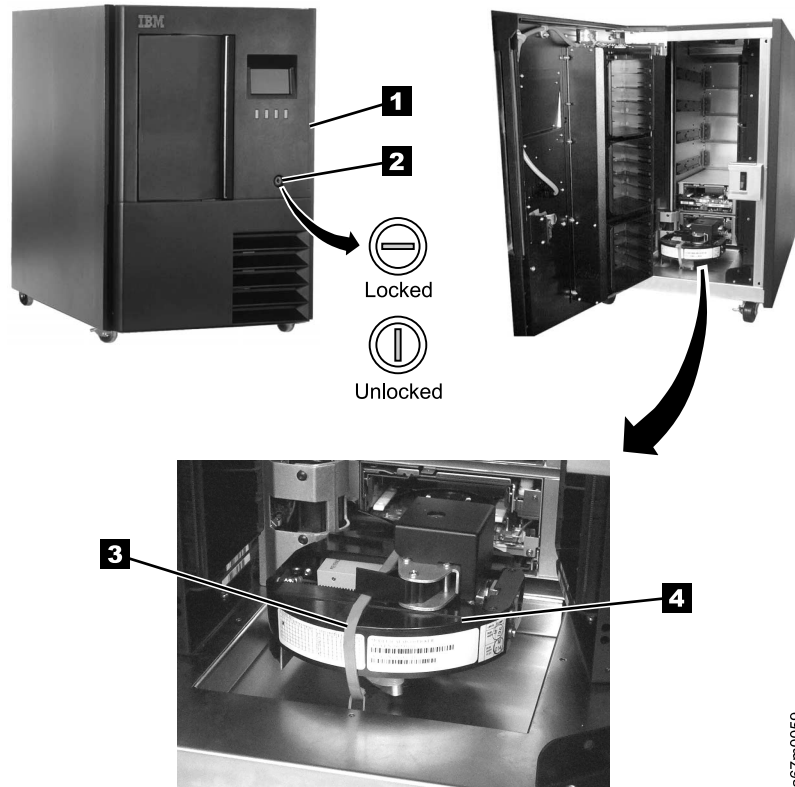

Figure 11. Installing a stand-alone library
3. Open the front door **1** by using the key **2** (see Figure 11).